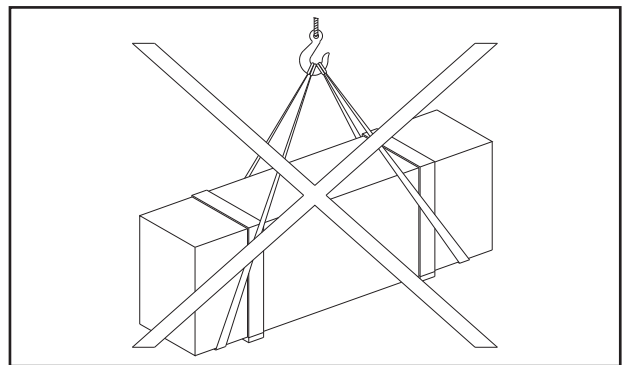

Fig.2
**NEVER attempt to hoist or transport the unit using lifting slings (Fig.2).**